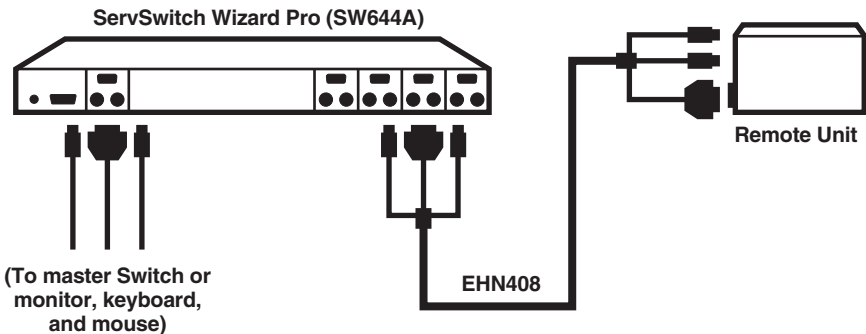

Figure 6-6. Attaching a KVM switch with multiple CPU-port connectors to the Remote Unit.
- If you're using one of our three-to-three bonded extension cables, run the cable's video strand between the two video/monitor ports, the cable's keyboard strand between the two keyboard ports, and the cable's mouse strand between the two mouse ports, as shown in Figure 6-6.